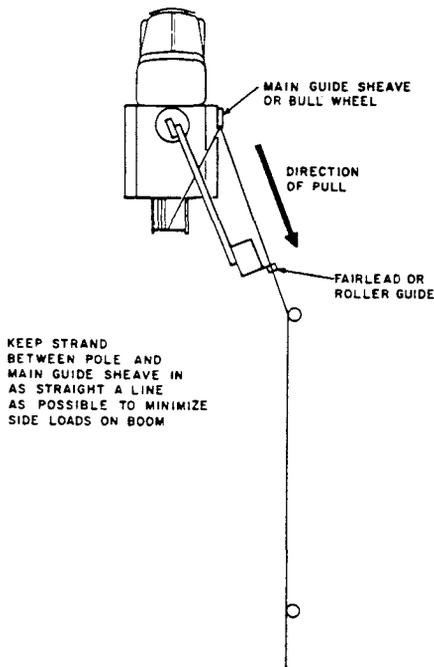

Fig. 1 -- Aligning Boom with Direction of Pull
3.05 Move the truck to the second pole while keeping the boom as near as possible in alignment with the direction of pull (Fig. 1). Adjust the amount of tension on the strand as necessary to prevent whipping and to maintain the necessary above-ground clearance.